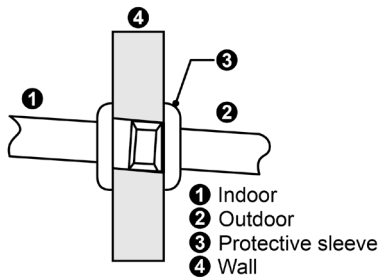

Figure 3-1 Refrigerant connecting pipe through the wall
1. If the water tank and the outdoor unit need to be connected by punching through a wall, a hole of $\Phi 55$ mm must be drilled in the wall and the hole should be inclined toward the exterior wall, as shown in Figure 3-1. Protective sleeves need to be put on both sides of the hole.